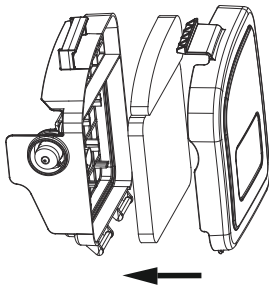

Fig. 15
2. Replace the air filter element. (Fig. 15)